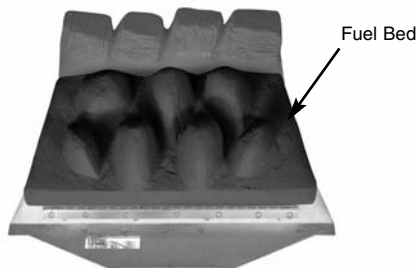

Fig. 78
2. Place the main fuel bed on to the middle section of the metal burner tray. It is important that the front edge of the fuel bed is located behind the burner strip (Fig. 78).